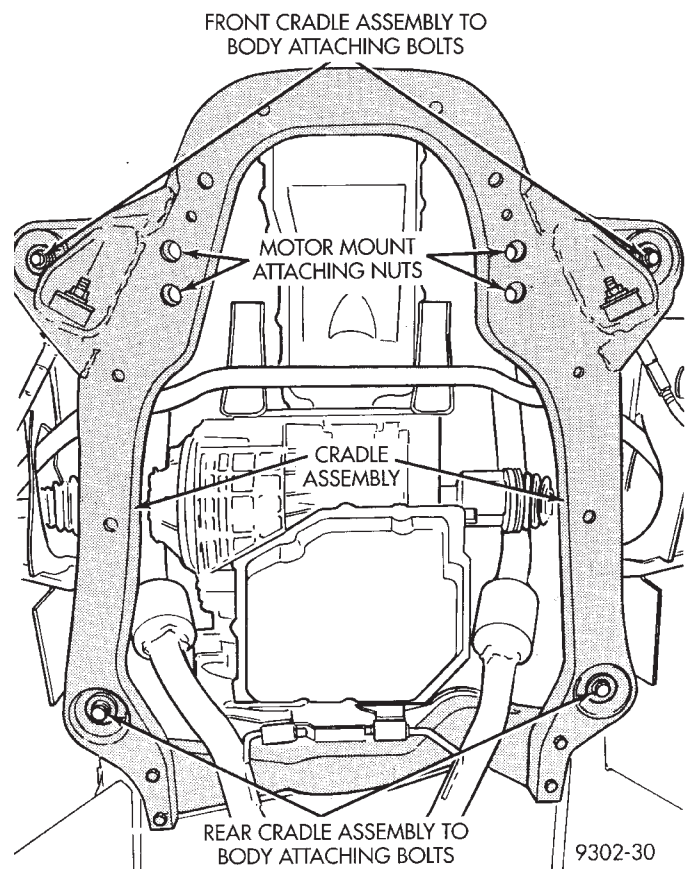

Fig. 21 Cradle Assembly To Body Attaching Bolts
- With the aid of a helper, raise rear of cradle assembly up far enough by hand to start the 2 rear cradle assembly to body attaching bolts (Fig. 21). Install bolts far enough to securely hold cradle assembly in place but **DO NOT TIGHTEN**.
- Continue to raise cradle assembly and engine using jack stand until the 2 front cradle assembly to body attaching bolts (Fig. 21) can be started.
- Using a crisscross pattern, tighten all 4 cradle assembly to body attaching bolts (Fig. 21) until cradle is seated up against body. Then repeating the crisscross pattern, torque all 4 cradle assembly to body mounting bolts to 155 N•m (115 ft. lbs.).